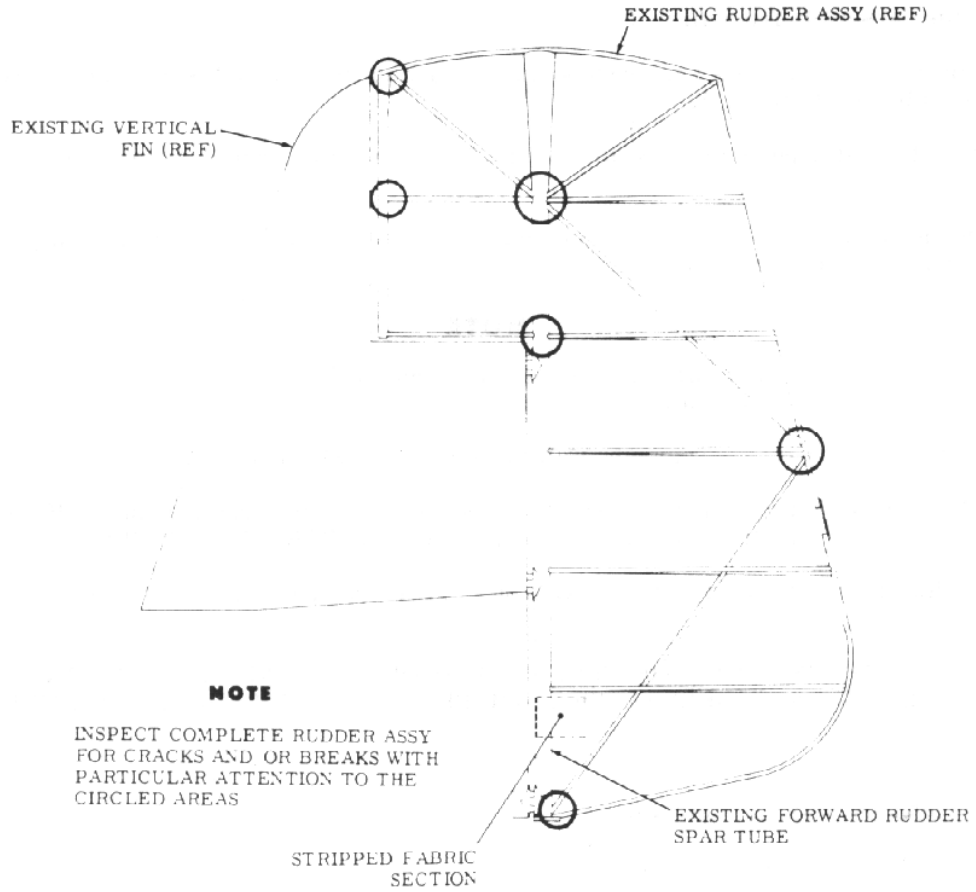

Figure 1.
- b.      Remove approximately six(6) square inches of fabric and paint from both sides of the lower portion of rudder assembly (see Figure 1.).
- c. Clean and inspect entire rudder assembly utilizing a dye penetrant test in accordance with FAA Advisory Circular AC 43.13-1 (see Figure 1.).